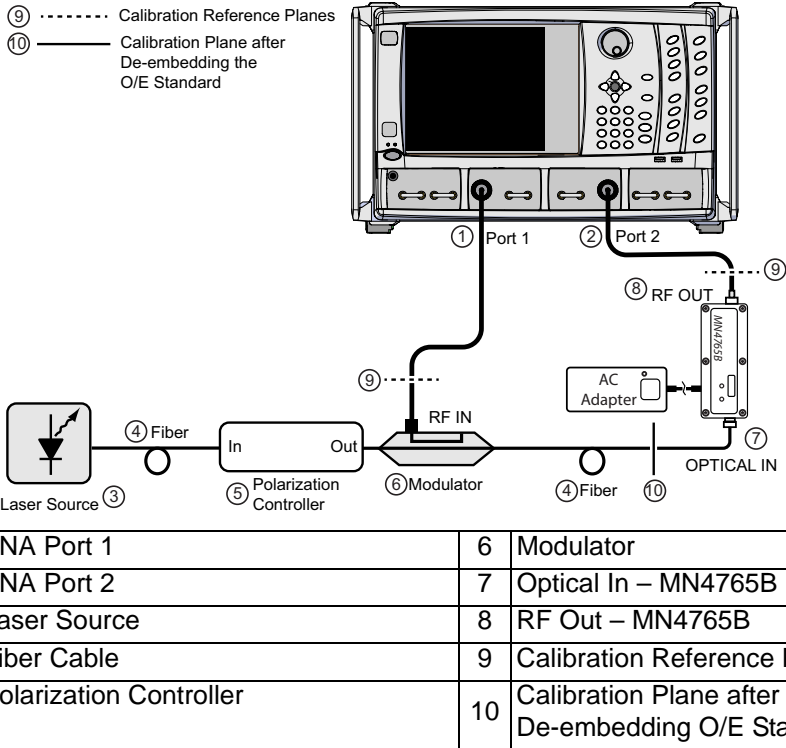

Figure 2-2. MN4765B E/O Measurement Setup With a VectorStar VNA
Connect the MN4765B Calibration Module to the Vector Network Analyzer. The example in Figure 2-2 on page 2-4 shows how to connect the MN4765B Calibration Module to an Anritsu VectorStar VNA. The connections to the VNA test ports are the same for the other Anritsu Vector Network Analyzers. With the MN4765B-0110 (110 GHz option), an ME7838x broadband system that incorporates an MS464xB VNA is required.
4. Connect the modulator DUT to the MN4765B photodiode in series as shown in Figure 2-2 on page 2-4.
The setup shown in Figure 2-2 can also be applied to O/E measurements of a photodiode or photo-receiver DUT. Photodiodes demodulate the electrical signal from the optically modulated light in a fiber optic transmission network. An external laser source, used with a characterized modulator, provides the input to the O/E DUT. The response of the characterized modulator is de-embedded from the setup using the O/E application menu. The characterization file for the modulator can be generated using the MN4765B. See Appendix A for instructions on generating an s2p file.
4. After entering the s2p file for the characterized modulator, the VNA is now calibrated and ready to make O/E measurements. Connect the characterized modulator and detector under test as shown in Figure 2-2 on page 2-4.
4. Connect the optical components together as shown in Figure 2-2 on page 2-4. Apply bias to the photodiode and to the modulator before turning on the laser.